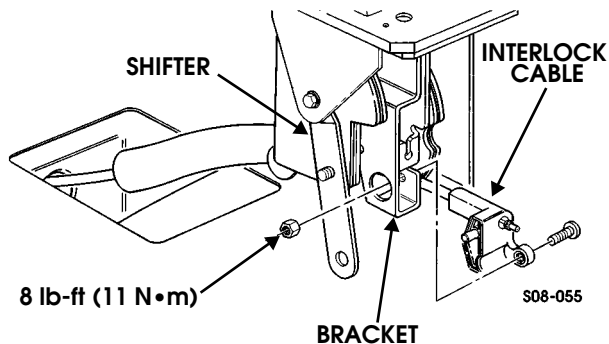

Figure 8-17: Interlock Cable and Shifter
11. Remove nut and screw securing interlock cable to shifter (Figure 8-17).
1. Secure interlock cable to shifter with screw and nut. Tighten nut to 8 lb-ft (11 N•m) (Figure 8-17).